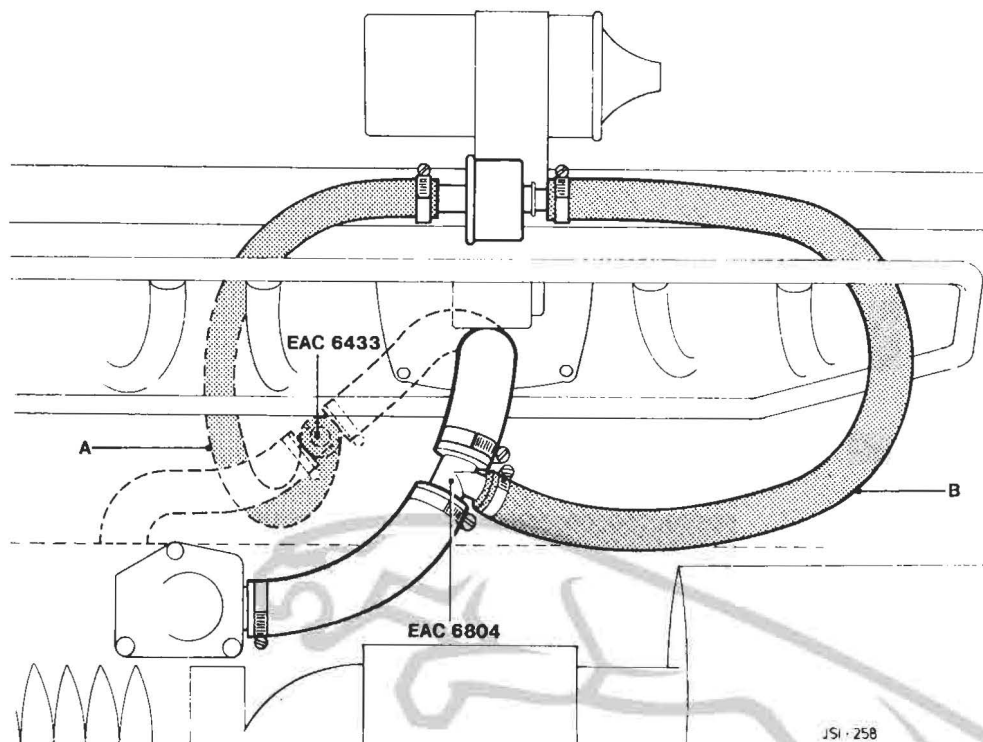

FIG. 4
Note: T piece EAC 6804 D should face horizontally forwards, and T piece EAC 6433 D should face downwards (for access) when fitted (see Fig. 4).
13. Connect the long length (A Fig. 4) to T piece EAC 6433 D under the inlet manifold, and feed hose through manifold to connect to the supplementary air valve outlet stub (see Fig. 4). Secure using hose clips EAC 3215/2 D.
14. Connect the short length of hose (B Fig. 4) between the T piece (EAC 6804 D) and the supplementary air valve inlet stub. Secure with clips EAC 3215/2 D.